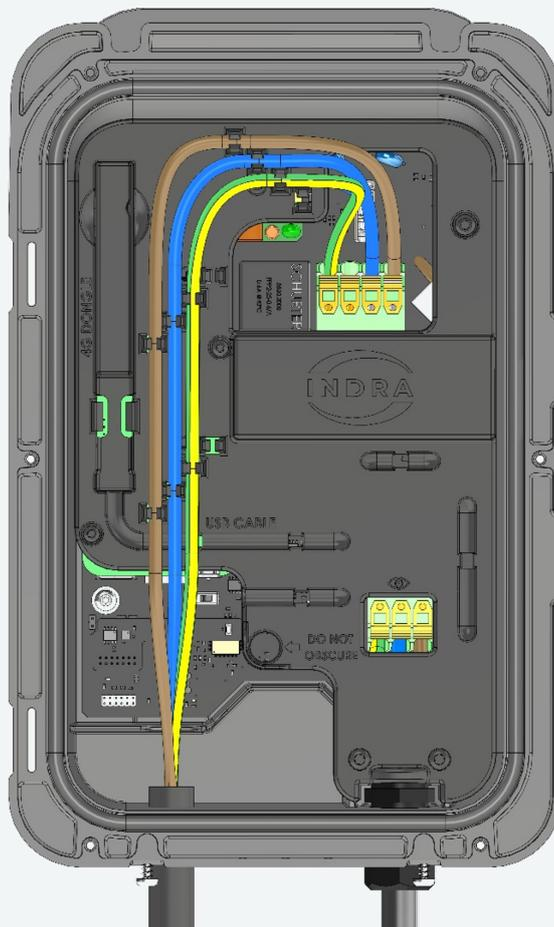

Figure 6: Smart LUX™ Mains Cable Routing
- Route the wires as per Figure 6.